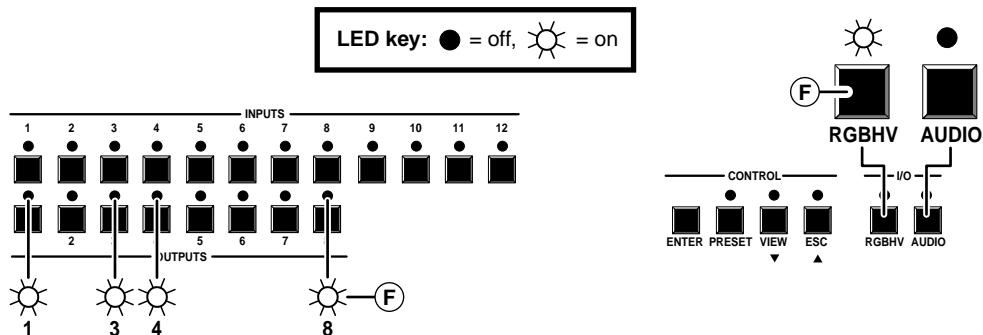

Figure 3-11 — Example 4f: Viewing the current configuration, video-only
- (F) Press and release the RGBHV and Audio buttons to toggle the Video LED on and the Audio LED off (figure 3-11).